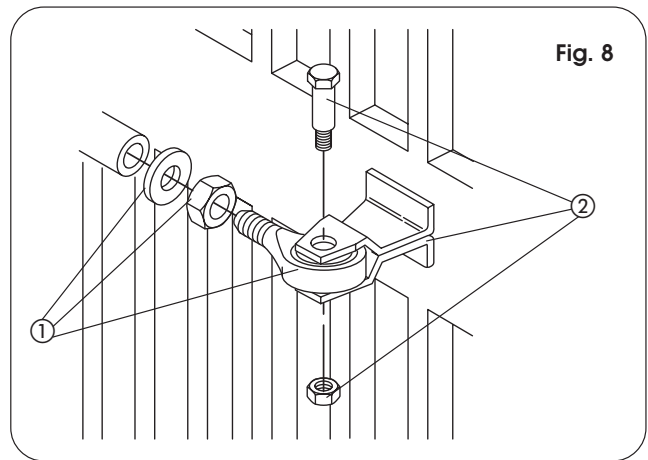

Fig. 8
- 3) Screw, halfway down, the front attachment onto the rod (ref. ① Fig.8) and tighten with the supplied nut.
- 7) Fit the front attachment onto the rod (ref. ② Fig. 8)